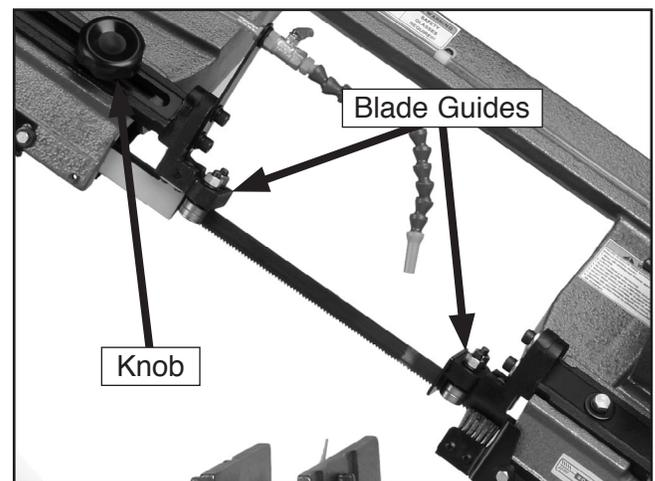

Figure 21. Blade guides.
1. Loosen the knob shown in **Figure 21** and slide the rear blade guide as close to the workpiece as possible, then tighten the knob.